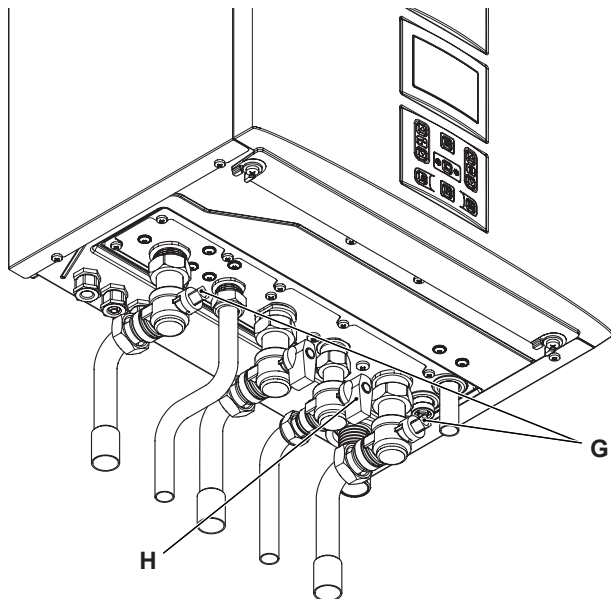

Figure 2.10
- 1 Close the C.H. circuit flow and return cocks "G" (Figure 2.10).
- 1 Close the D.H.W. inlet cock "H" (Figure 2.10).